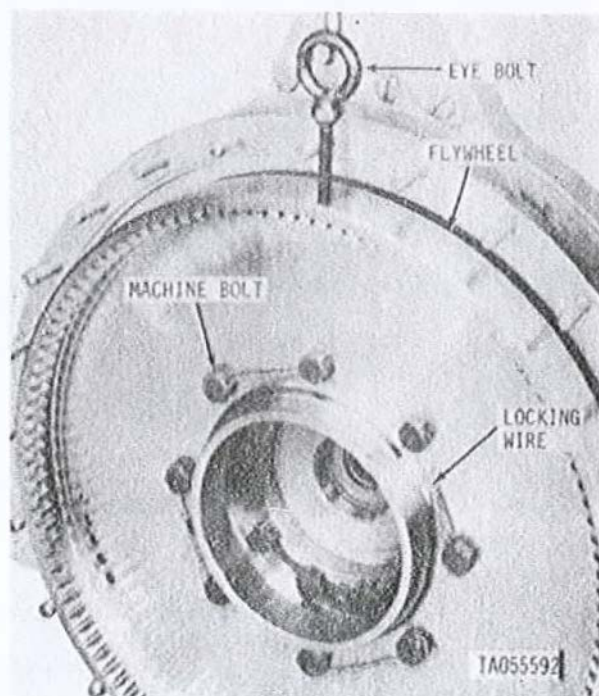

Figure 3-118.1. Removing or installing flywheel, model AVDS-1790-2DR engine.
c.1. Position flywheel to locate lifting eye bolt hole at top center. Install lifting eye bolt, Part No. MS51937-7 (fig. 3-118.1). Cut locking wire and re-